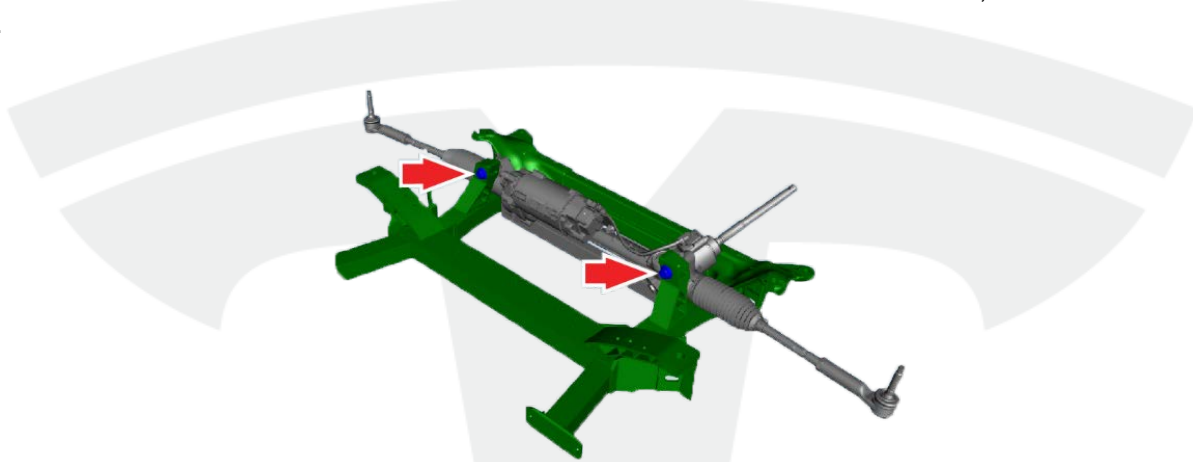

Figure 1
2. Remove and discard the 2 bolts that secure the steering rack to the subframe (Figure 1).